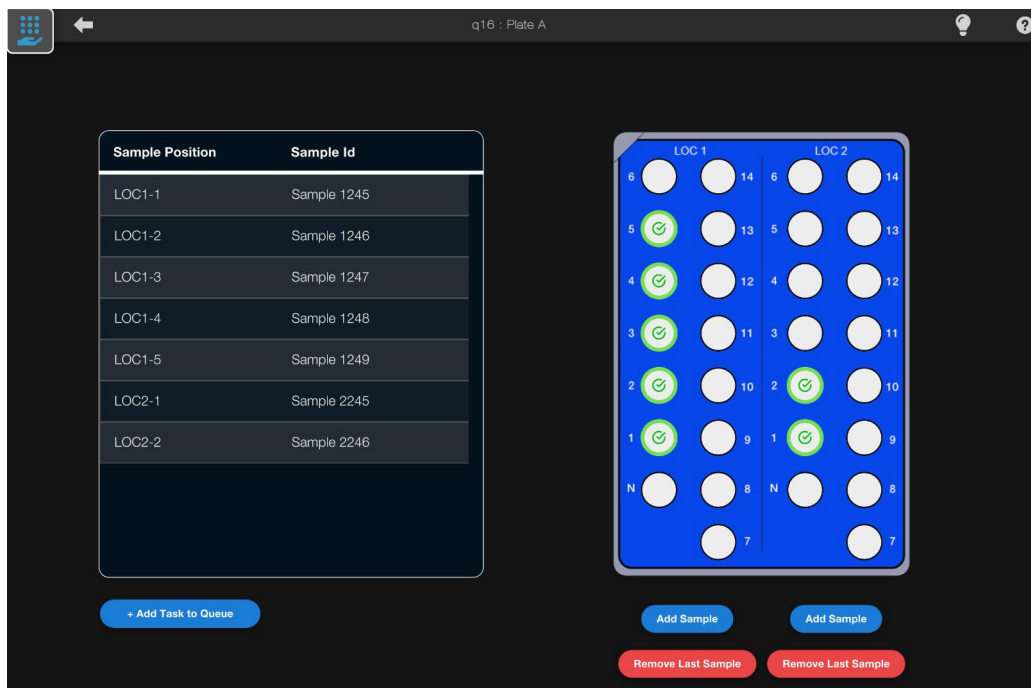

Figure 7.12 A populated sample screen
- Check that all the required sample IDs have been entered correctly (Figure 7.12)